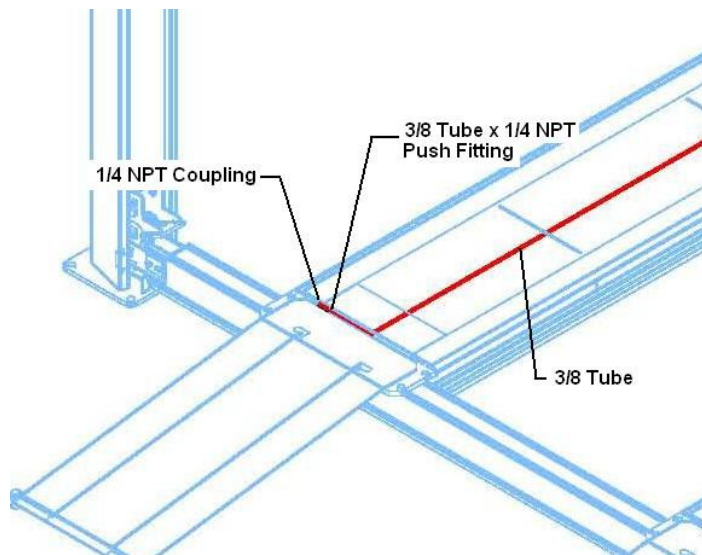

Figure 7
13. Finally, route the 3/8" tube to the rear 1/4" NPT coupling using the 3/8" tube x 1/4" MNPT push fitting, **Fig 7**.